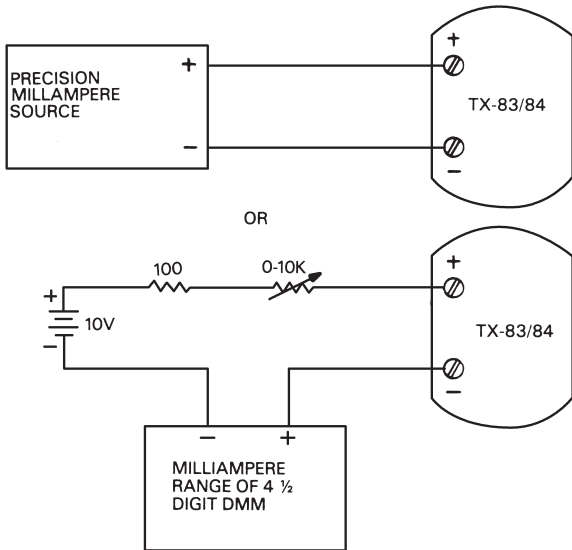

Figure 3-2. Calibration Set-Up
3. Pull off two sealing plugs that cover the Span (S) and Zero (Z) potentiometer screw heads on the front of the TX-83/84.
4. Set up the TX-83/84 as shown in Figure 3-2.
- A. Alternately apply input currents I1 and I2, and adjust Span pot (S) until span reading equals $N2 - N1$ counts.
- B. Apply input current I1, and adjust the Zero pot (Z) until a reading equal to N1 is displayed.